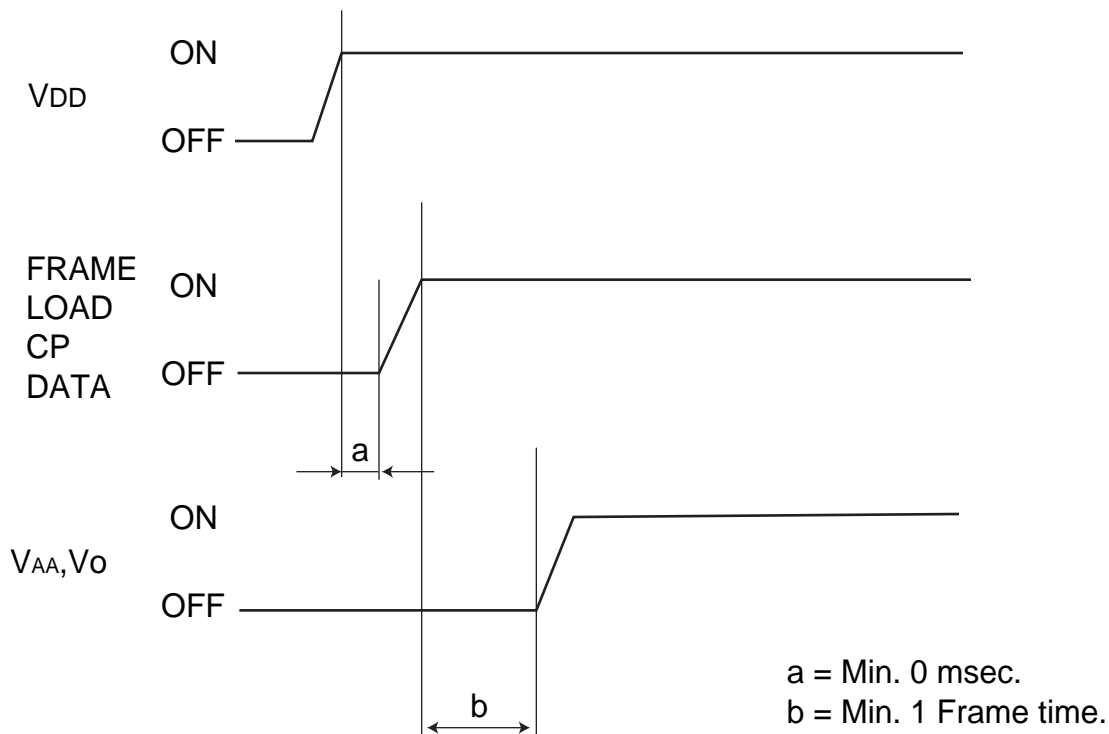

Fig 9-1
- (2) The response of the display is slow when the ambient temperature is below the lower limit, and the display becomes unusual when the ambient temperature is above the upper limit. In any case, it does not mean failure. It operates properly in the normal operating temperature range.
- (3) The contrast of the liquid crystal display varies with the viewing angle, ambient temperature, and drive voltage. Adjust the drive voltage for the best contrast by installing external variable switch.
- (4) If you move the module from a cold storage into the room as during test, moisture would condense on the module and it might fail.
- (5) To prevent IC latch-up and DC voltage on the LCD panel, power on by the following timing (Fig 9-1).